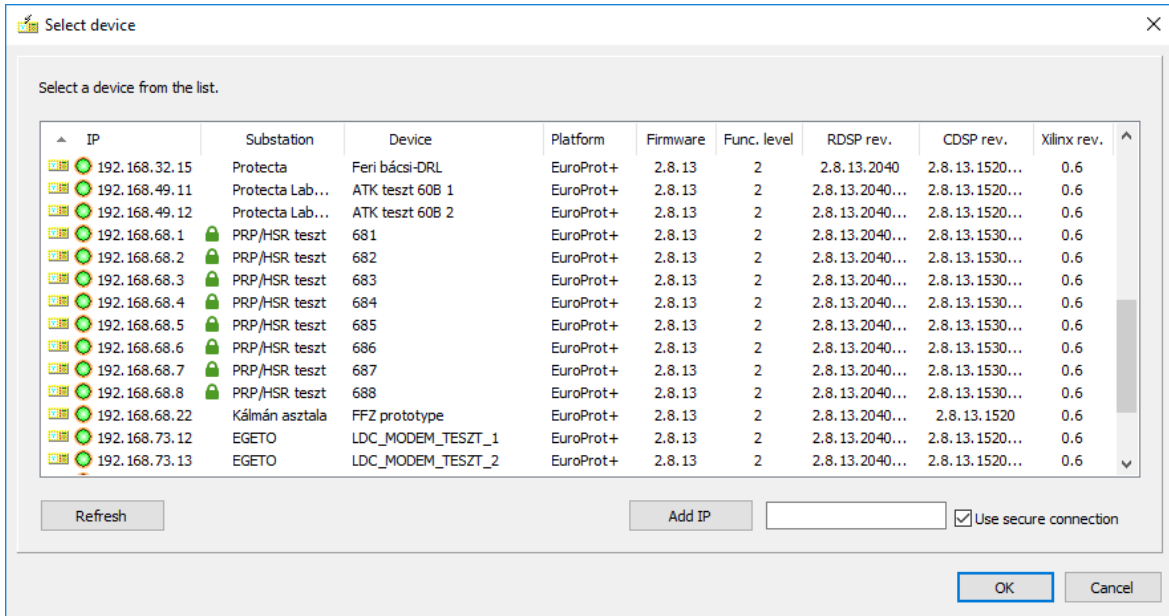

Figure 2-3 The “Select device” dialog
-  for uploading the configuration from a device connected to the Ethernet network. After clicking on the icon, one of the devices connected to the Ethernet network can be selected for processing. It takes a short time to find these devices, and then the “Select device” window is opened (See Figure 2-3). This window lists the responding devices together with their IP address, substation and device name and firmware identifiers. The selection is performed using the usual Windows methods. The alternative method of opening is to select “Project / Upload configuration” from the menu. In this case the user can choose between the current or previous version of the configuration stored in the device.